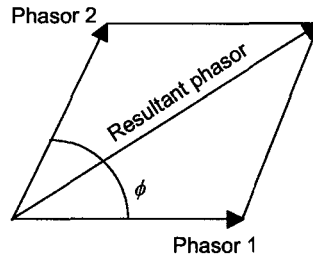

Figure 17.16 Adding phasors
- 1 Draw the phasors as the two adjacent sides of a parallelogram (Figure 17.16).